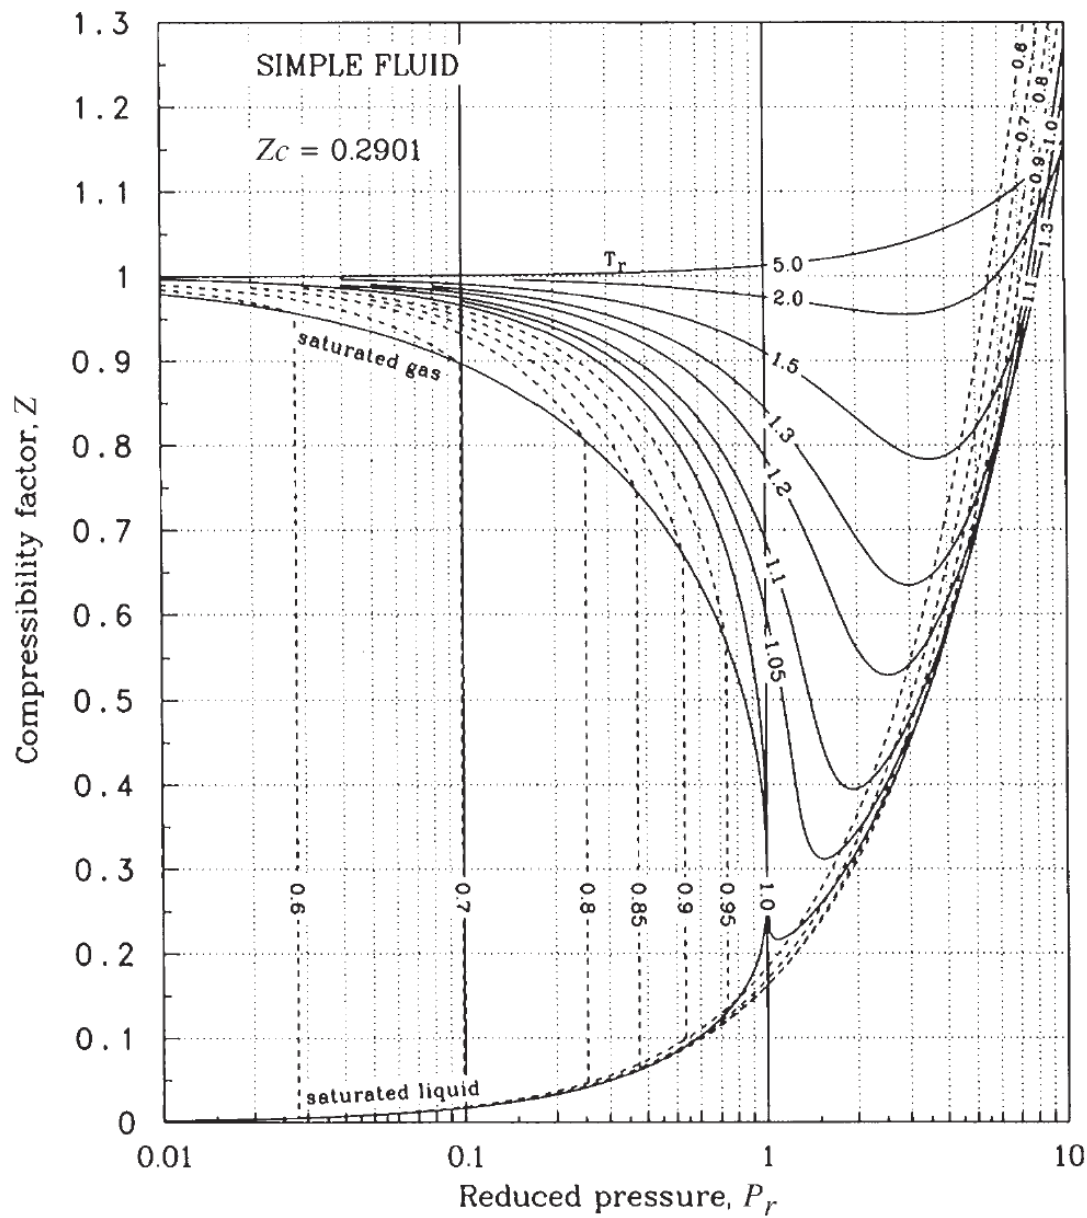

FIGURE D.1 Lee-Kesler simple fluid compressibility factor.
- b. For carbon dioxide, the critical properties are 304.1 K, 7.38 MPa. Therefore, the reduced properties are 0.96 and 0.136. From Fig. D.1, carbon dioxide is a gas (although $T < T_c$) with a Z of about 0.95, so the ideal gas model is accurate to within about 5% in this case.
- c. The generalized chart, Fig. D.1
c. Using the generalized chart, Fig. D.1, we obtain